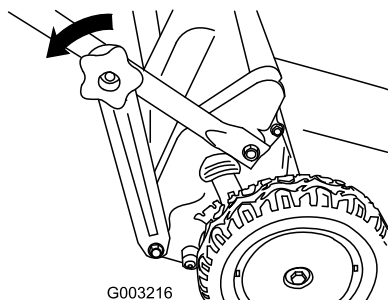

Figure 41
1. Remove the lower handle knobs (Figure 41).
2. Detach the lower handle brackets from the lower end of both handle sides (Figure 41).